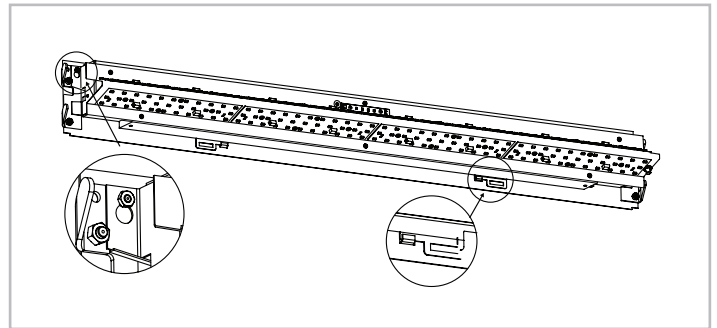

Figure 4: Mounting of the Wire Way to the Back Plate
3. Lift the Wire Way off the hooks on the Back Plate and rotate it so the keyhole slots at either end of the Wire Way align with the screws and hex nuts on the Back Plate as shown in **Figure 4**. Engage the two tabs on the lower edge of the Wire Way with the Back Plate as shown in **Figure 4**. Be sure all wires are tucked in the Wire Way. Tighten the hex nuts at the key slots until the Wire Way is secured to the Back Plate.